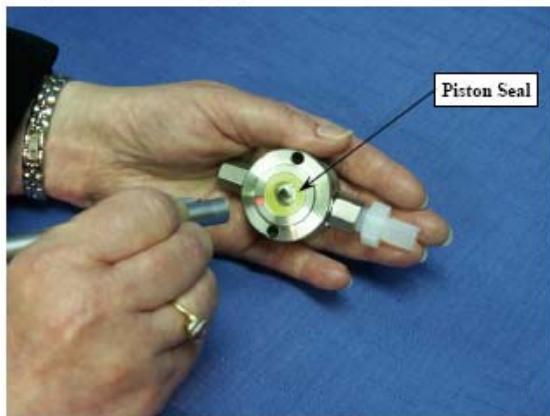

Figure 6-4: Removing the Piston Seal
5. Remove the seal using the flanged end of the plastic seal removal tool supplied with the seal replacement kit as shown in Figure 6-4. Avoid scratching the sealing surface in the pump head.